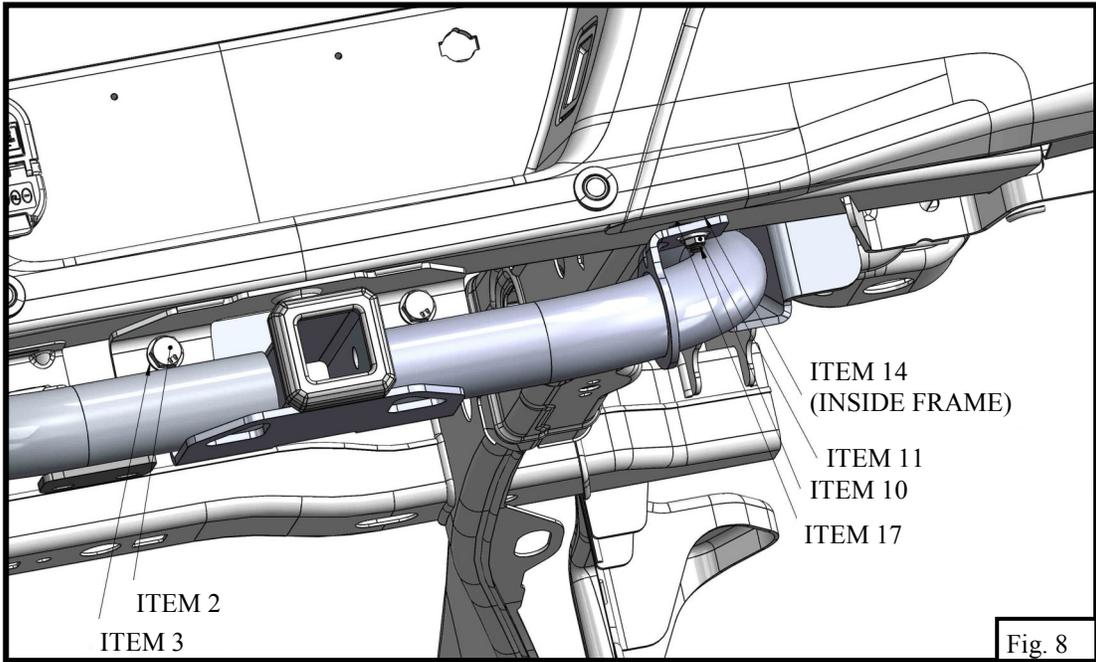
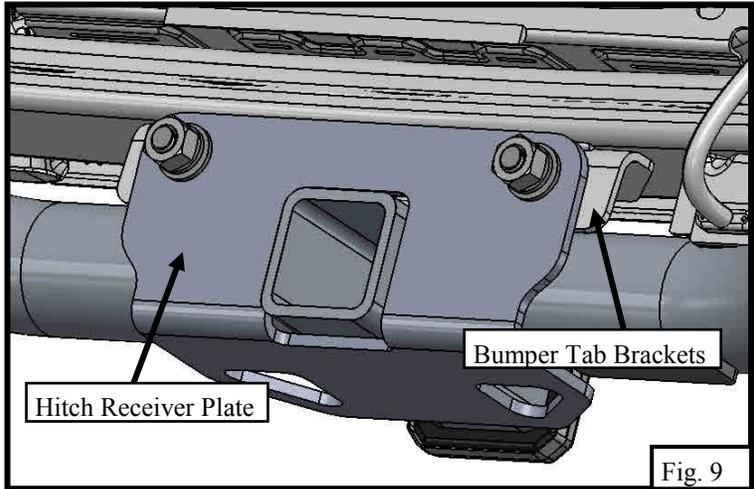

Fig. 8
Fig. 9
11. Align the main hitch assembly with the two M10 bolts that were installed in step 2-4. Loosely secure the main hitch assembly to the frame bumper using the supplied M10 hardware. Place the hitch receiver plate behind the bumper tab brackets when aligning the main hitch assembly. **See Fig 9.** Loosely secure the hitch receiver plate to the bumper tab brackets with the supplied M14 hardware. **See Fig 8.**